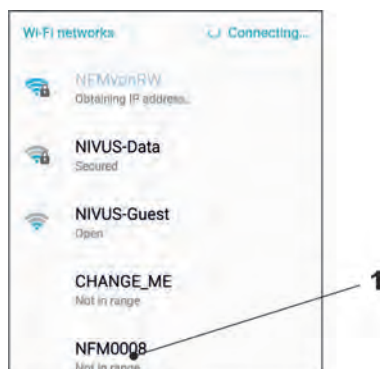

Fig. 30-4 WLAN list
4. In the WLAN list select the NFM (Fig. 30-4 Pos. 1) with the corresponding SSID (delivery status = serial number).